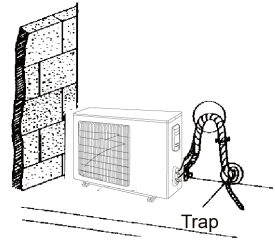

Fig. 4.18
- (2). If the outdoor unit is installed higher than the indoor unit (See Fig. 4.18)